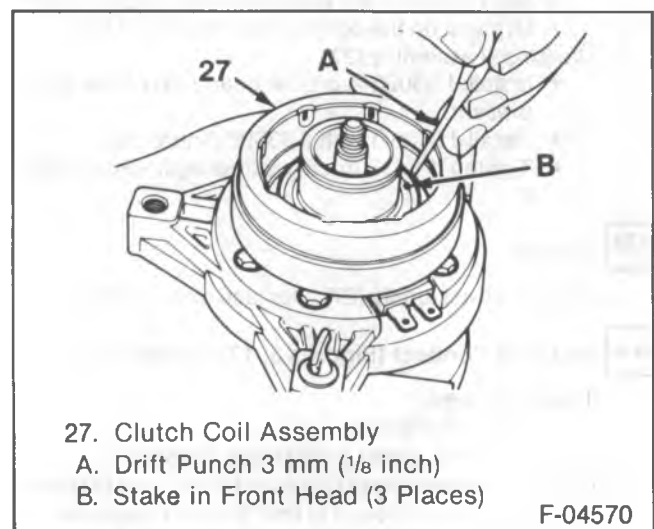

Figure 18—Staking the Clutch Coil to the Front Head
assembly (27) remains in position (figure 18).